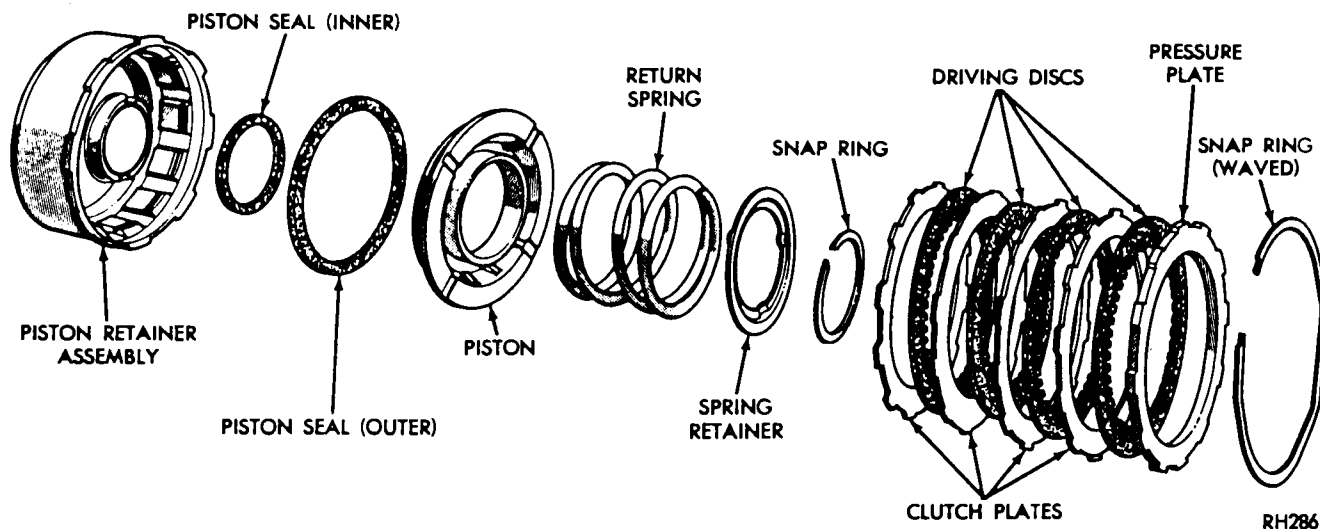

Fig. 18—Front Clutch (A-904T and A-999)
Figure 18 shows a disassembled view of the front clutch assembly.
(1) Lubricate and install inner seal on hub of clutch retainer. Make sure lip of seal faces down and seal is properly seated in the groove (Fig. 18).
(2) Install outer seal on the clutch piston, with lip of